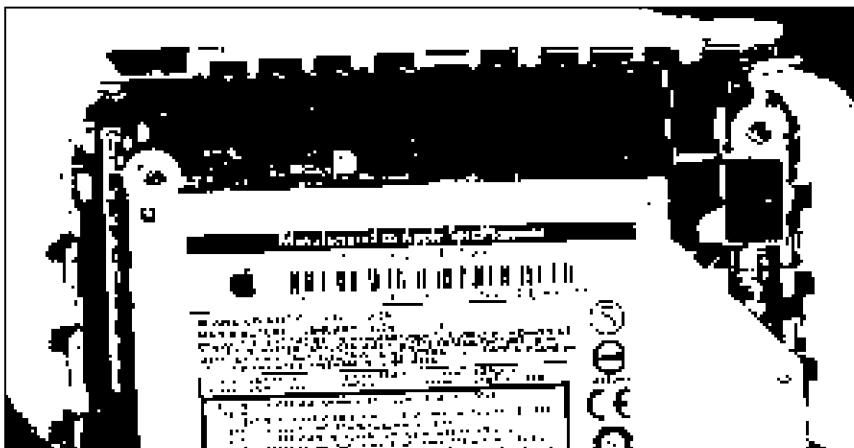

Figure 5-7:
2. **Remove the two screws near each corner at the rear port panel of the Mac mini, as shown in Figure 5-7.**
The interconnect board is located at the rear end of the DVD drive. If you look closely at Figure 5-7, you can see the edge of the board.